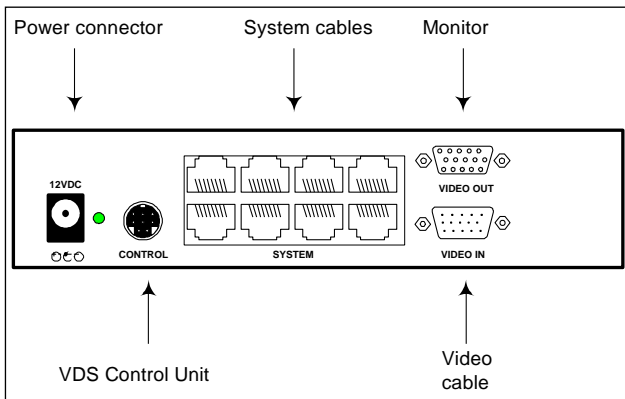
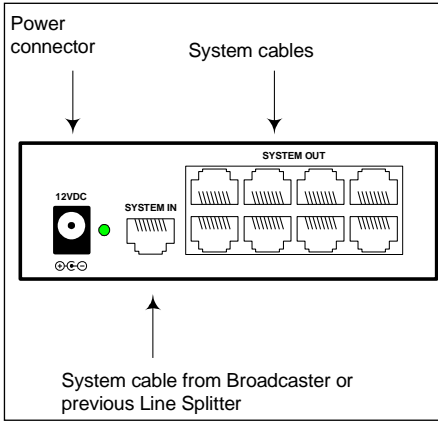
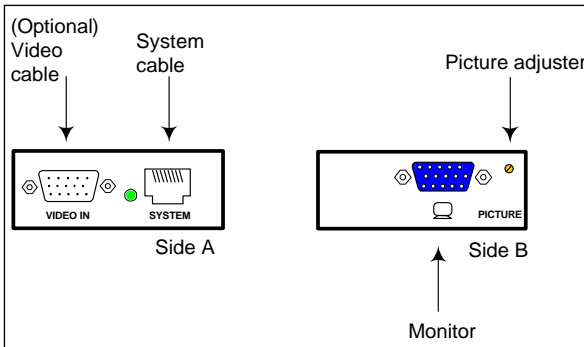
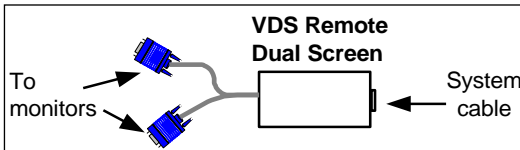

Figure 1: Broadcaster Unit
Figure 2: Line Splitter
Figure 3: Remote Unit
Figure 4: Remote Dual Screen
| Figure 1: Broadcaster Unit | 5 |
| Figure 2: Line Splitter | 6 |
| Figure 3: Remote Unit | 6 |
| Figure 4: Remote Dual Screen | 6 |
The figures below illustrate the broadcaster unit (Figure 1), line splitter (Figure 2), remote units (Figure 3) and remote dual screen (Figure 4).
- Use a small screwdriver to turn the picture adjuster on the remote unit to adjust the picture quality (see Figure 3).